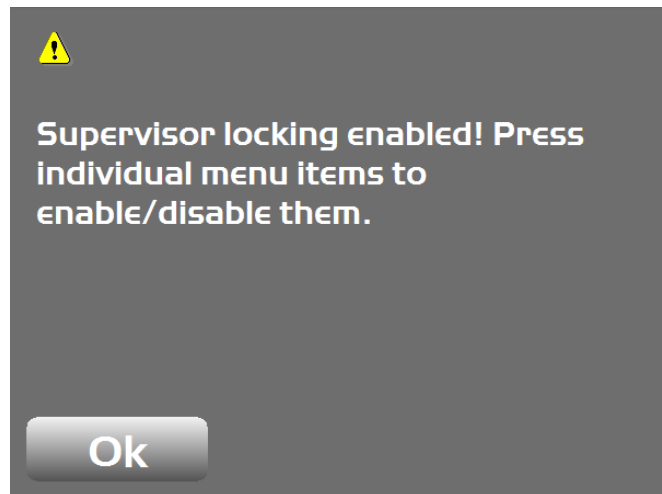

Figure 91: Supervisor Locking Enabled
2. Select either **Lock menus**, **Lock buttons**, or **Lock screen items**. A confirmation screen appears (Figure 91).